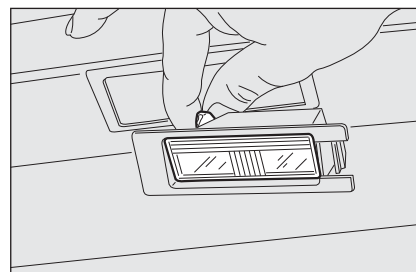

fig. 29
- change the bulb **fig. 29** by releasing it from the side contacts and making sure the new bulb is correctly fastened between these contacts;